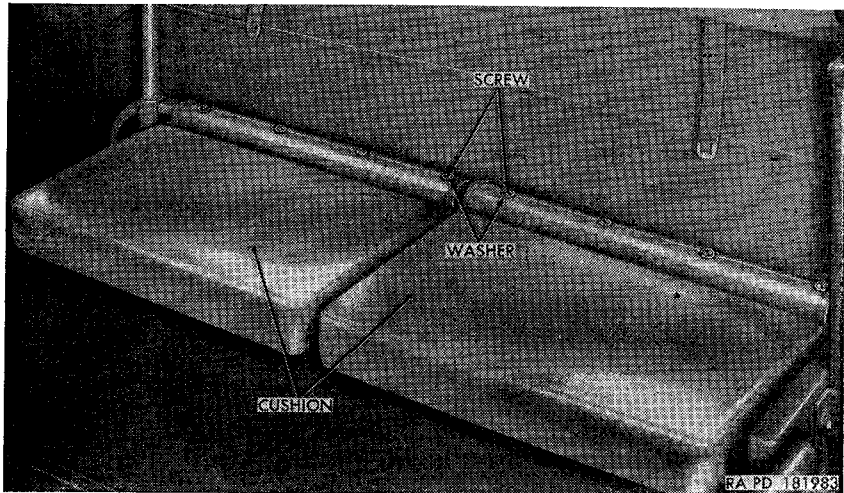

Figure 202. *Right wheel house cushions—installed.*
- (2) *Installation.* Place the front passenger seat back cover and pad and the crash pad and cover in position within the driver's compartment. Secure the front passenger seat pivot brackets to the floor pan with two  $\frac{5}{16}$ -inch flat washers and  $\frac{5}{16} \times \frac{3}{4}$  lockwasher screws. Move the front passenger crash pad and cover forward until the locking bracket on the seat frame engages the footman loop on the floor pan. Position the front passenger seat cushion within the driver's compartment so that the pivot pins are over the seat hinge pivots on the floor pan. Aline the flat sides of the pins with the flat faces of the pivots and insert the pins into the pivots. Tilt cushion rearward until the frame rests on the floor pan.
c. *Wheel House Cushions* (fig. 202).
- (1) *Removal.* Remove the four oval-head tapping screws and finish washers securing each of the two right wheel house cushions to the top of the right wheel house and remove cushions from within vehicle. Remove the five oval-head tapping screws and finish washers securing each of the two left wheel house cushions to the top of the left wheel house and remove the cushions from the vehicle.
- (2) *Installation.* Position the two right wheel house cushions on the top of the right wheel house and secure each one with four No. 10 finish washers and No. 10 x 1/2 oval-head tapping screws. Position the two left wheel house cushions on top